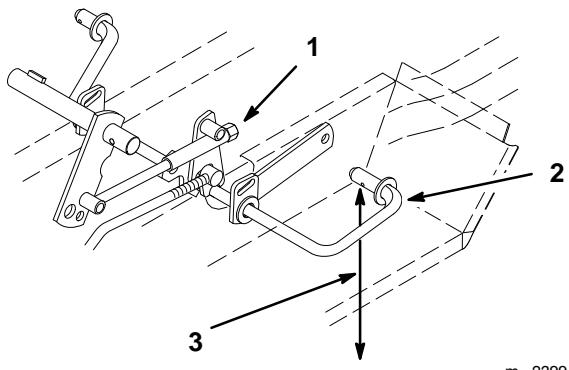

Figure 5
- Adjust transport height nut until bottom of rear lift arms are approximately 7-1/4" (188 mm) from the level surface (Fig. 5).